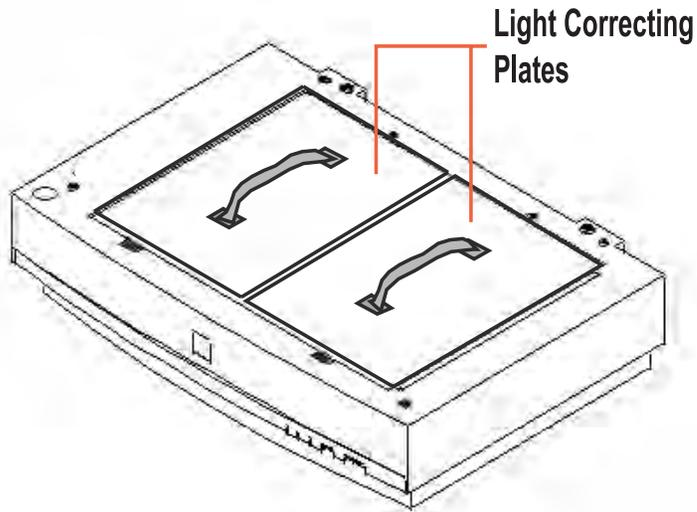

Figure 5-12. Light Correcting Plates Setting
- Remove the Document Unit Cover, and place the light correction tools (Light Correcting Plates attached with the White Standard Chart) on the glass as shown in Figure 5-12.